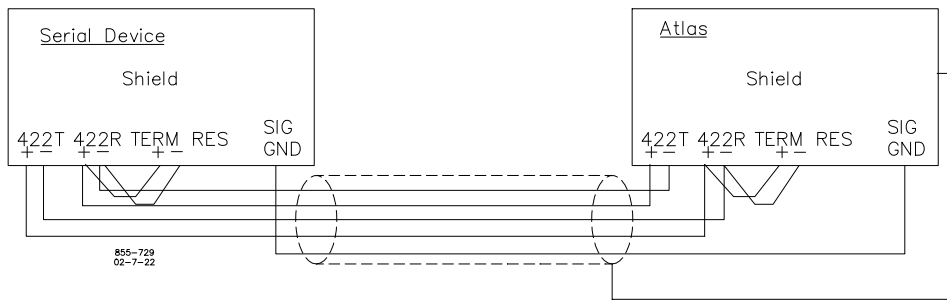

Figure 6-17. Wiring Example–RS-232 Interface to the SmartCore Board
- Refer to Figure 6-17 for RS-232 wiring. The transmit data (TXD), receive data (RXD), and signal ground (SIG GND) must be properly connected as shown. In addition the shield (SHLD) should be connected in at least one location.